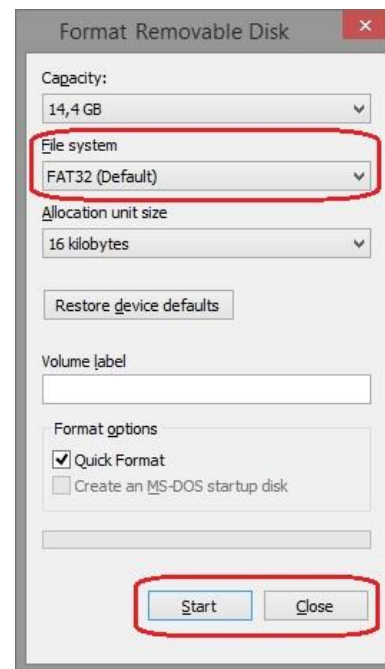

Figure 2 – Format the USB Stick to FAT
- Click on Start (see Figure 2);